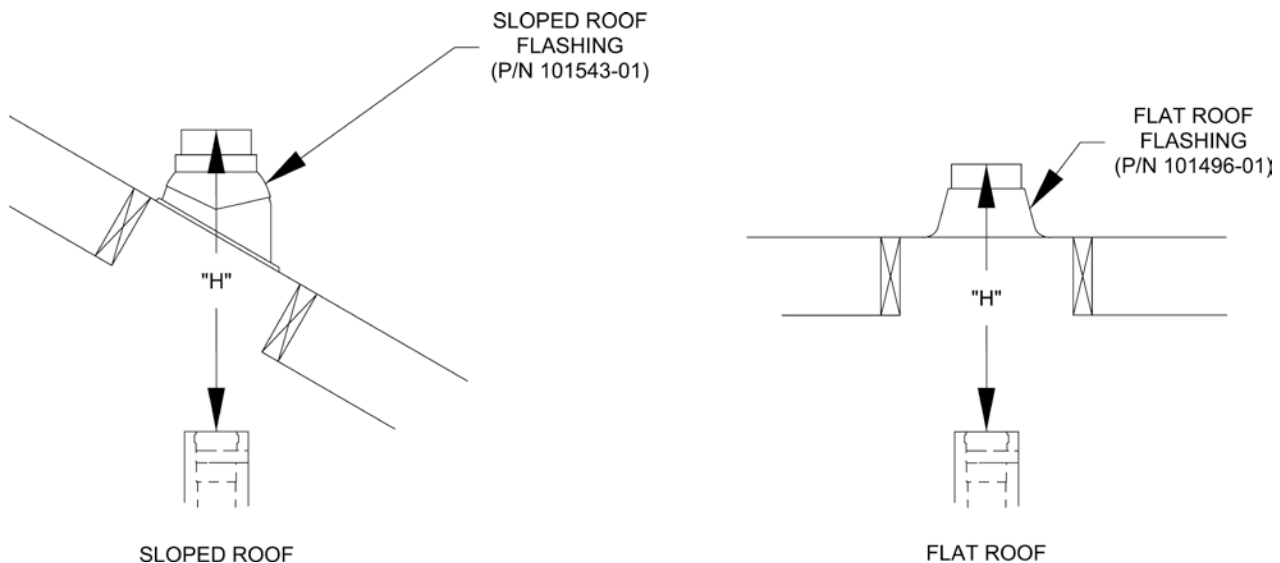

Figure 25: Dimension "H"
- d. Measure distance "H" from the top edge of the storm collar to the end of the last fitting as shown in Figure 25.